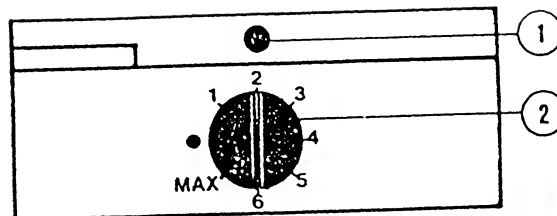
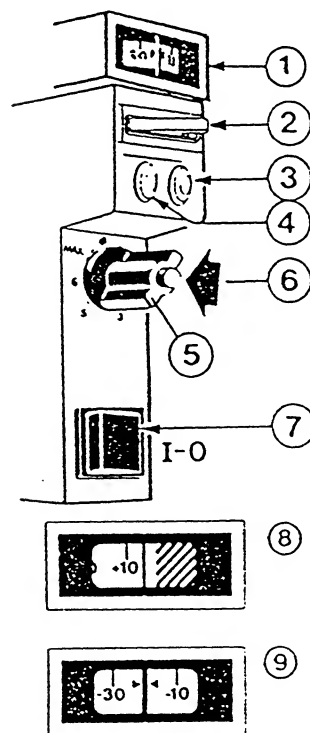

Figure 6
Figure 7
The temperature is regulated by the thermostat knob (Fig. 6) and can be set between 1 - MAX. The higher the setting, the colder it will be in the cabinet.
The mains switch (Fig. 7, item 7) is used to switch off the freezer. The refrigerator can be turned off by turning the thermostat dial to ● (Fig. 6).
The temperature is regulated by the thermostat knob (Fig. 7) and can be set between 1 - MAX. The higher the setting, the colder it will be in the cabinet.
To stop the compressor, turn the thermostat to ● (Fig. 7).
First switch off the freezer by turning the mains on/off switch to ● (see Fig. 7, item 5). Remove foodstuffs and wrap them in newspapers or blankets and store in a cool place. Defrosting can be speeded up if a container of hot (not boiling) water is placed in the freezer. Use a container that will not scratch the cabinet interior, and do not allow the warm container to come in
The cabinet should be cleaned regularly. Switch off the cabinet by turning the thermostat knob to ●. Fig. 6 & 7